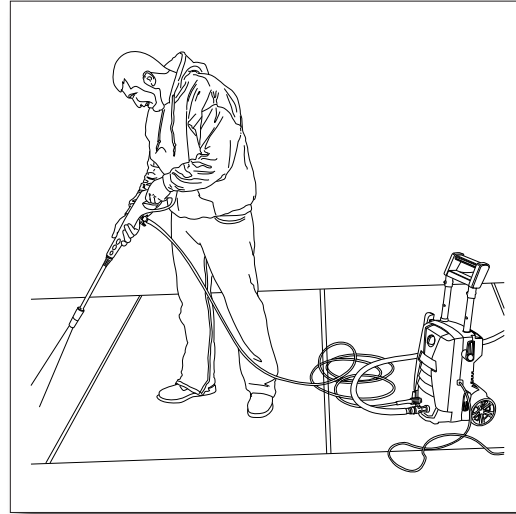

Fig. 10
**Always test** a small area to avoid chance of damaging the surface. (**Fig. 10**).